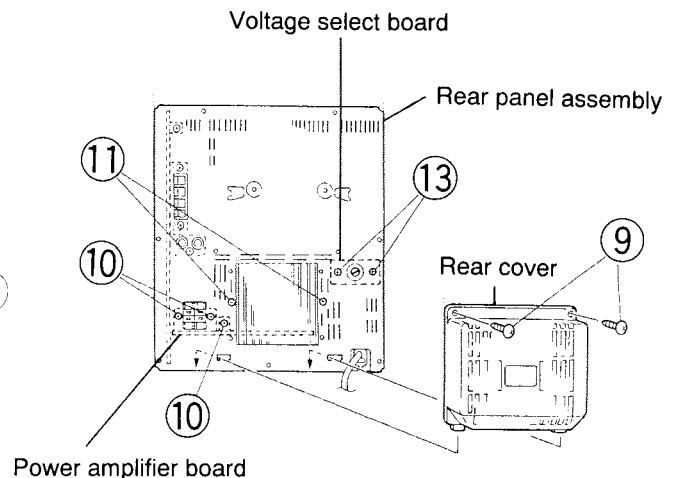

Fig. 5-17a (For U version only)
8. Remove the two screws ⑬ fastening the voltage select board to the rear panel assembly. (See Fig. 5-17a For U version only)